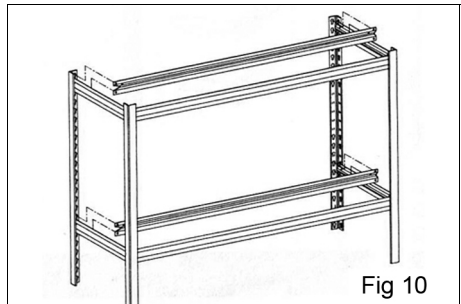

Fig 10
4. Assemble the second unit with the lower beams typically installed at the 7th/8th keyholes from the bottom as shown in Fig 10.